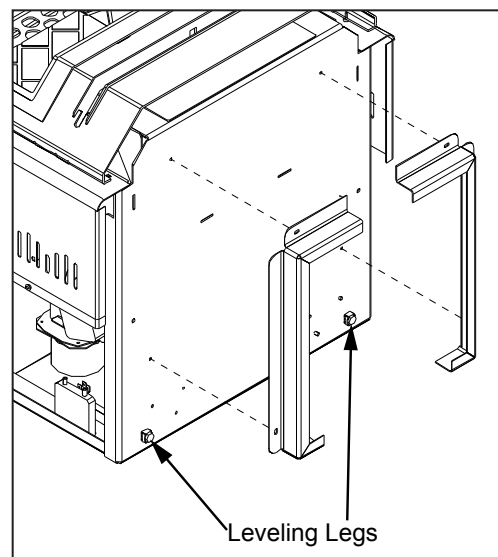

Figure 19: Installing Pedestal.
There are two parts to the Meridian insert pedestal and they can be found inside the hopper. Place unit on its back. Two (2) hex head screws are used on each side of the pedestal (refer to Figure 19). Using a $\frac{5}{16}$ " wrench or socket attach the pedestal to the bottom of the unit.